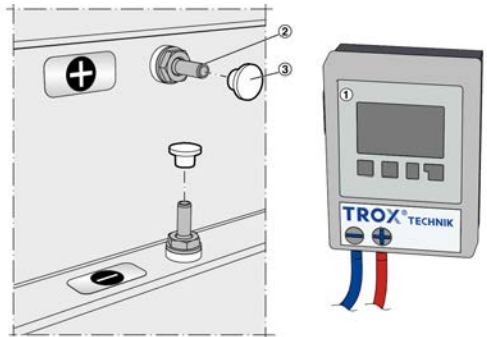

Fig. 10: TROX MD-DPC connection
**Permanent measurement:** Continuous differential pressure measurement and monitoring of the final differential pressure. This is done with a static differential pressure measuring device (Fig. 10/1), e.g. TROX MD-UT, MD-APC or MD-DPC, using the pressure measurement points (Fig. 10/2) at the side or on the top of the casing.
**Temporary measurement:** Temporary differential pressure measurement with a mobile measurement device connected to the internal measuring tube (Fig. 10). For this, you have to remove the diffuser face, ↻ 9.
Re-attach the plugs (Fig. 10/3) after the measurement.